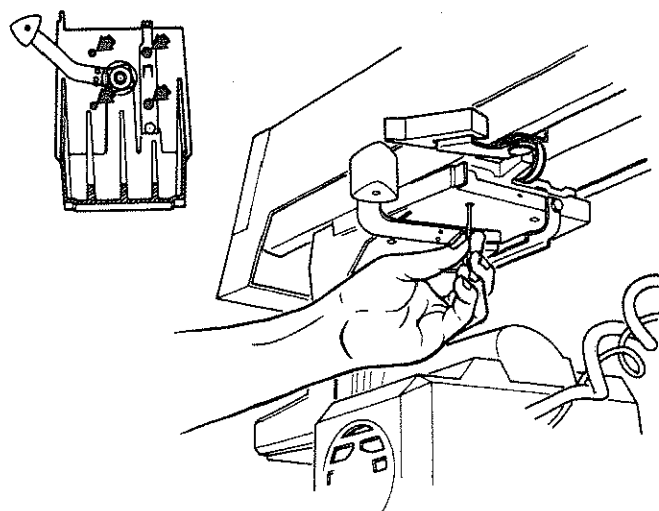

Fig. 113
7. Loosen the four screws under the *yoke* using a 1/8 inch hex-L wrench and pliers if necessary. (Figure 113)